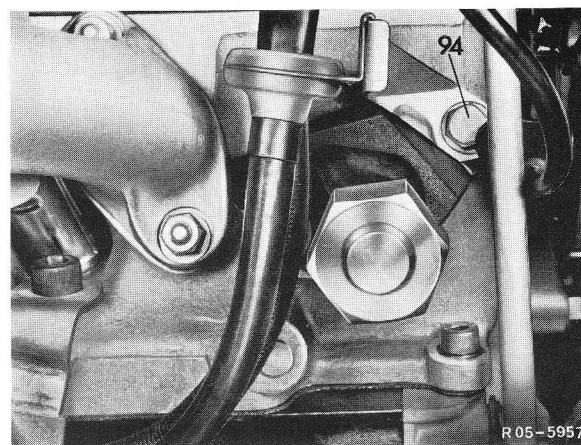

Fig. 2
- 2 Loosen both fastening bolts (94) and remove chain tensioner, while pushing cable holder aside (Fig. 2).